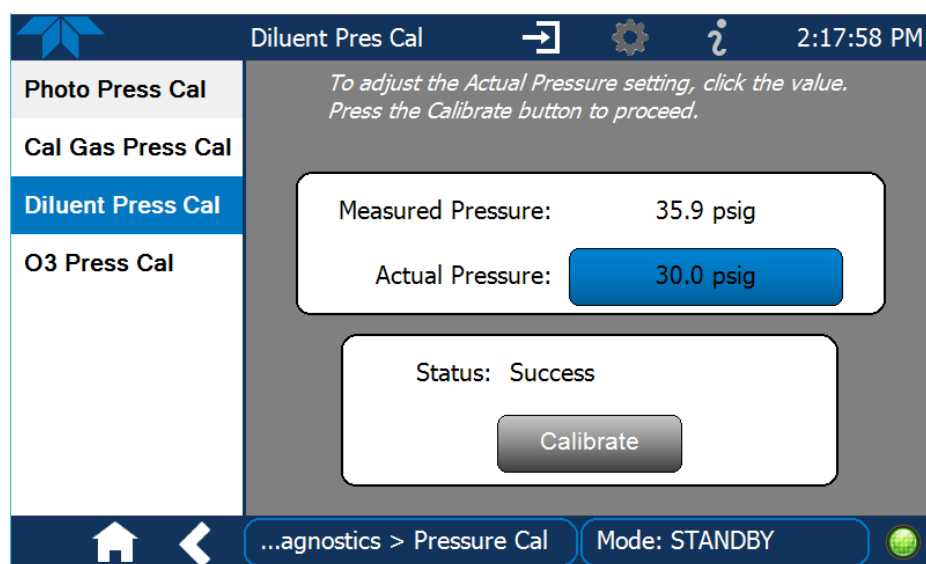

Figure 5-13. Pressure Sensor Calibration Page (Diluent Example)
3. Turn on the calibrator, and in the Diagnostics>Pressure Cal menu (Figure 5-13) highlight the pressure sensor to be calibrated.